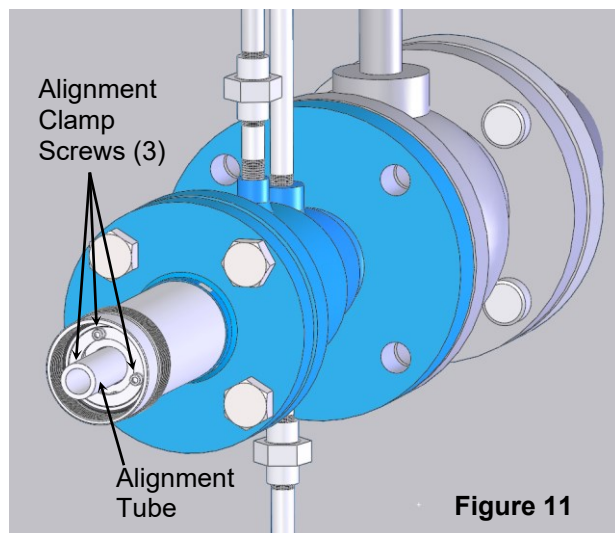

Figure 11
4. Loosen the three alignment clamp screws using a 9/64" hex wrench (Figure 11).